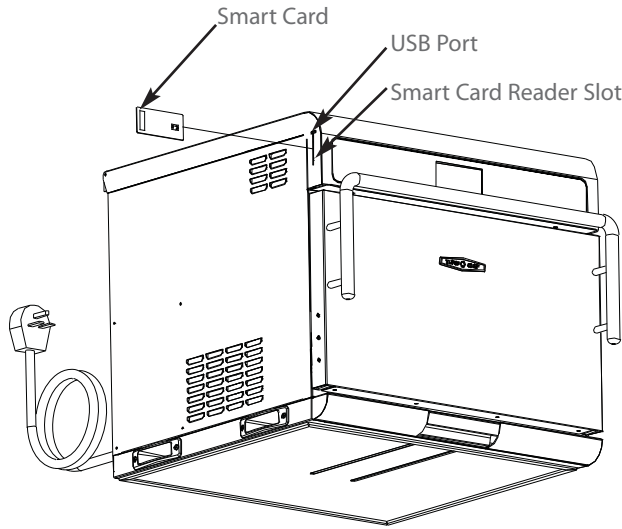

Figure 14: Inserting Smart Card/USB Device
1. Insert the source (smart card or USB - see Figure 14).